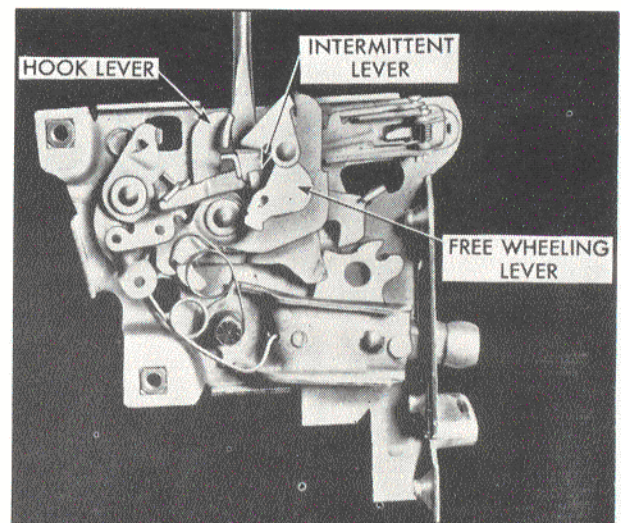

Fig. 2
4. Using a screwdriver or some other suitable tool (fig. 2), carefully bend the intermittent lever inboard to gain operating clearance for the lever. A few thousandths adjustment is sufficient to obtain this clearance.